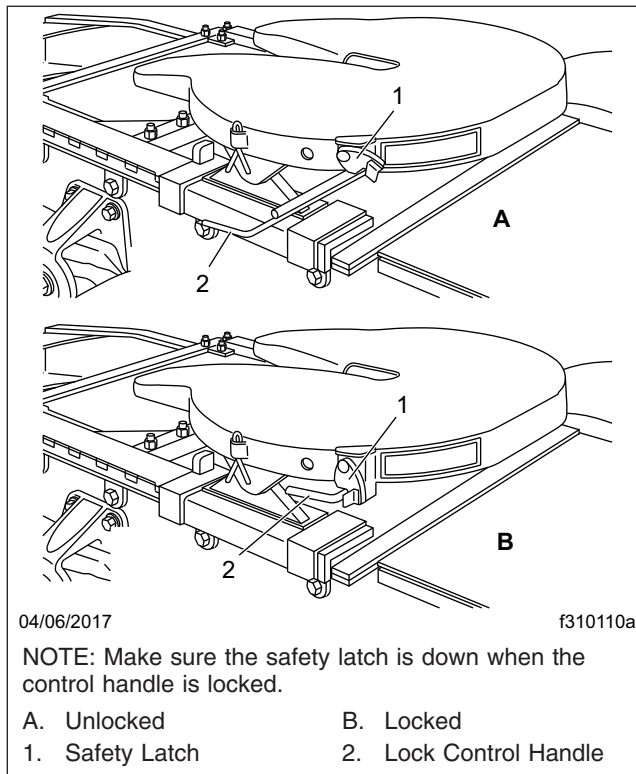
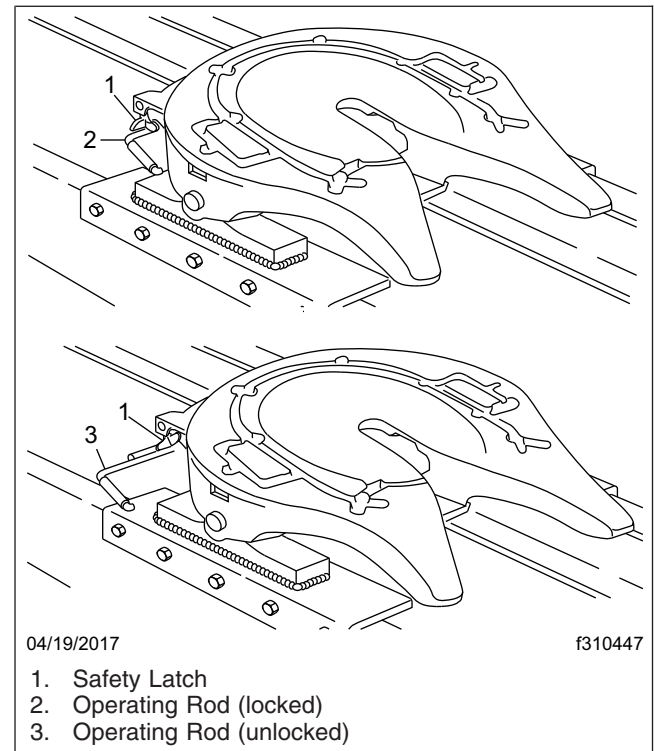

Fig. 18.2, Fontaine Locking Mechanism
Fig. 18.3, Holland Simplex SE Locking Mechanism
2. Ensure the fifth wheel jaw is fully open and the operating rod is in the unlocked position. See Fig. 18.2 or Fig. 18.3.
When lockup has occurred, the fifth wheel control handle moves to the locked position. Make sure that the safety latch is down over the lock control handle to hold the control handle in the locked position. (The safety latch will only rotate down if the operating rod is fully retracted in the locked position.) See Fig. 18.2 for Fontaine fifth wheels. See Fig. 18.3 for Holland fifth wheels.
- 7.1 **Fontaine:** Lift the safety latch and pull the lock control handle to the unlocked position. See Fig. 18.2.